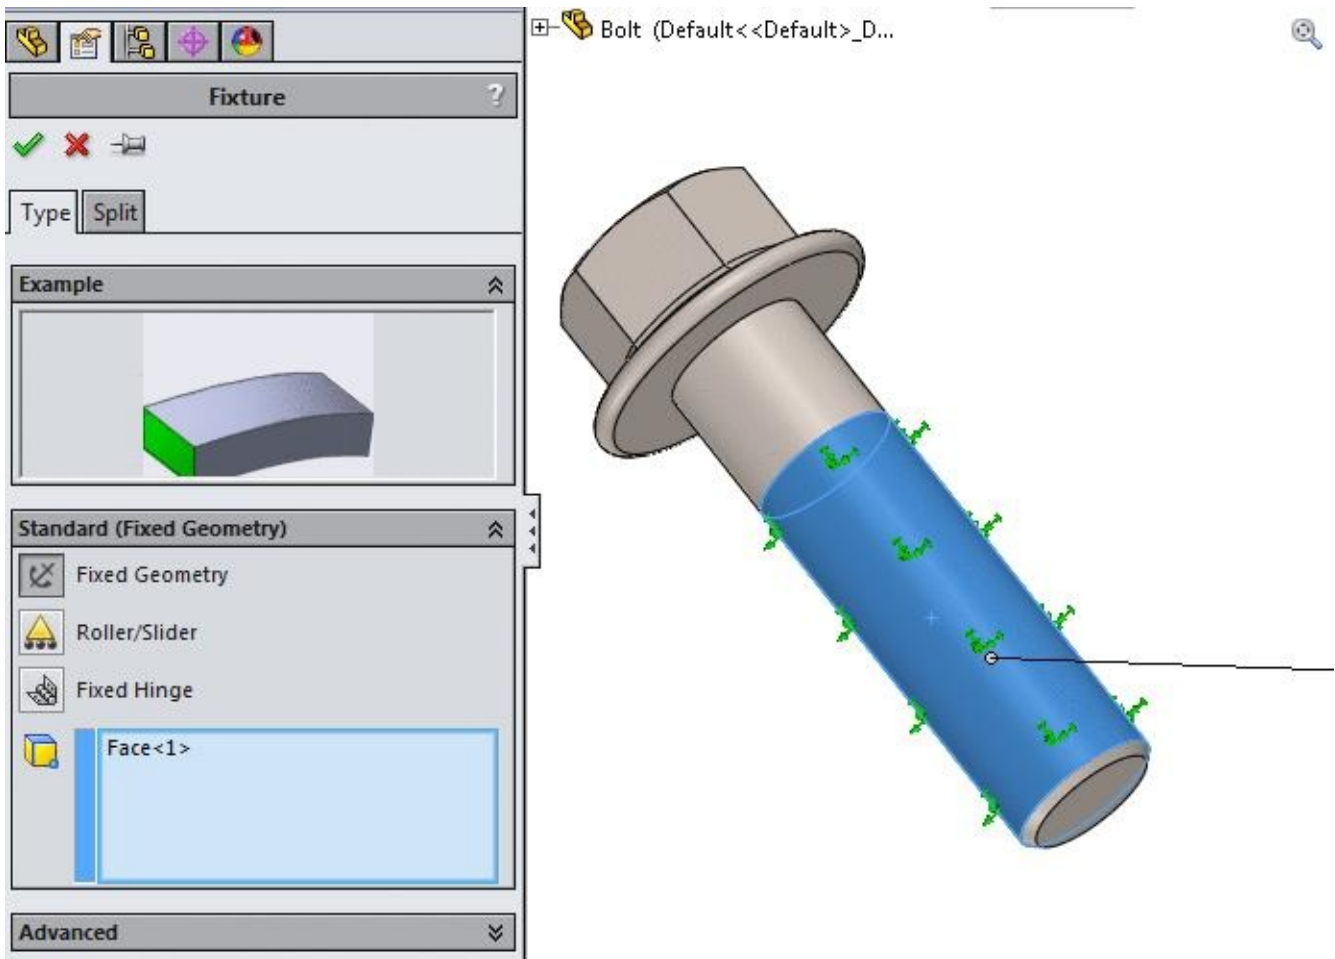

Figure-11. Fixed round face
- Select the round bottom face of the bolt as shown in Figure-11.